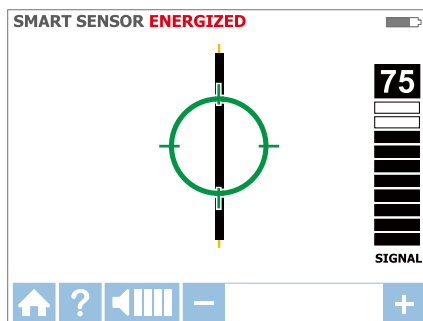

Figure 3.1f: Receiver locked on wire
5. A green target symbol indicates that the Receiver is directly over the wire (Figure 3.1f). If the Receiver does not lock on the wire, decrease sensitivity using the "-" on the keypad or set the Transmitter to transmit at LOW level for precision tracing.